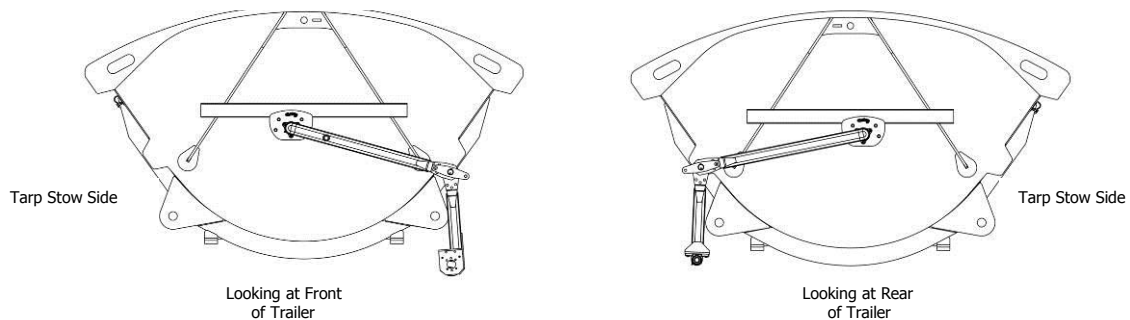
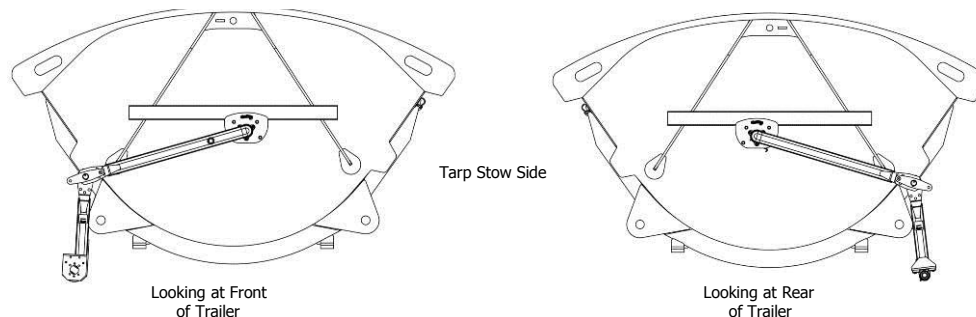

Figure 3
Figure 4
1. Attach the arm **without** the bearing mounted on it to the pivot box that is mounted on the front of the trailer, for passenger stowing systems see Figure 3 and for driver stowing systems see Figure 4. The flat surface of the motor/bearing plate should be facing away from the tub. Do the same for the rear of the trailer using the arm that has the bearing. Once in place, tighten the set bolts.